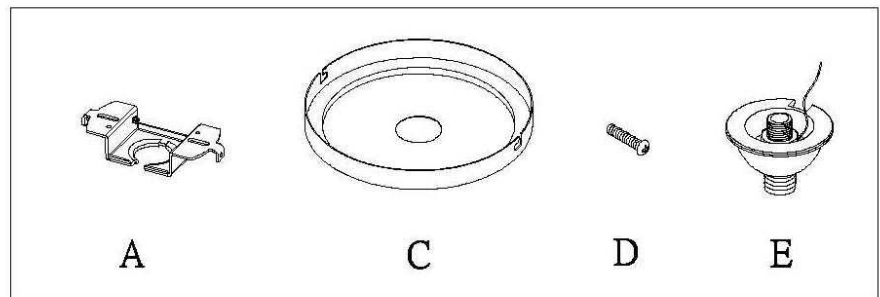

Fig. 3
3. Attach the mounting plate (A) to the outlet box using the outlet box screws (B) as the direction on Fig. 3.
4. secure the arms (J) to the fixture body by threading the screws (G).
5. Determine length desired and thread rod (F1, F2) to the rod (F3), then place the canopy (C) over the rods (F) and thread the hanger ball (E) to the rods (F).
6. While holding the fixture body, attach the hanger ball (E) onto the slot of mounting plate (A) and turn to lock into position.